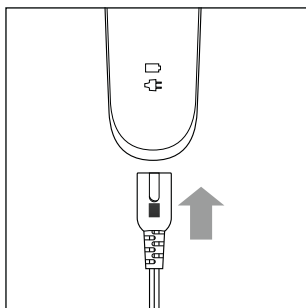

Fig. 1
- 2) Connect the barrel plug **9** of the mains adapter **8** to the appliance (see fig. 1).